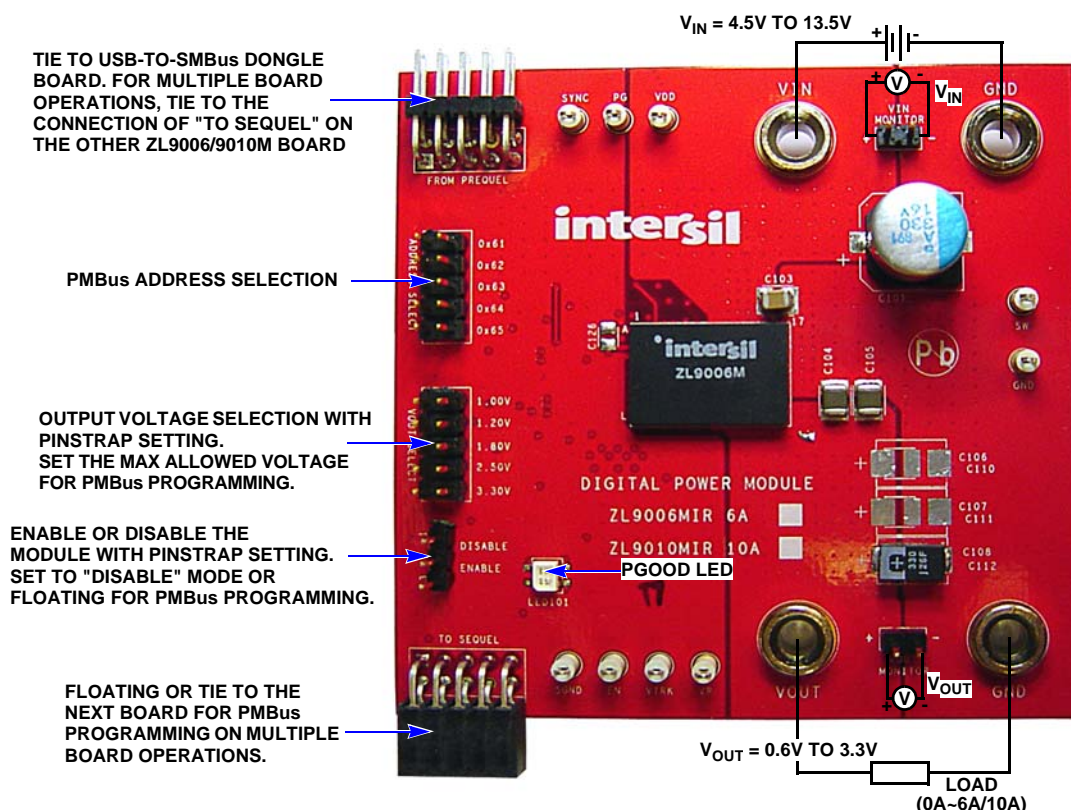

FIGURE 1. ZL9006M, ZL9010M BOARD IMAGE
Figure 1 represents a typical implementation of the ZL9006M, ZL9010M. For PMBus operation, it is recommended to tie the Enable pin (EN) to "disable" mode.
The inputs are P2A (VIN) and P2B (GND). The outputs are P1A (VOUT) and P1B (GND). Refer to Figure 1 for connections. There are two ways to evaluate this evaluation board: I²C/PMBus programming (Steps 1 through 4) and quick pinstrap power-up (Step 6).